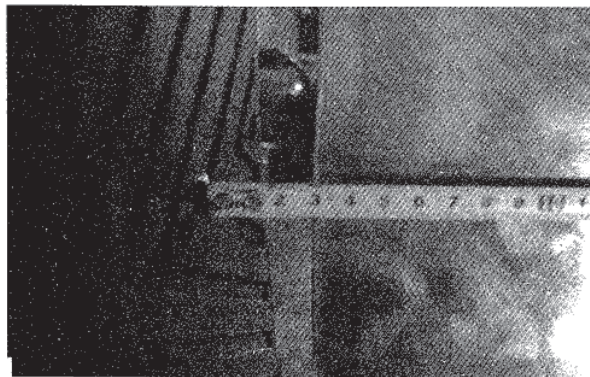

Fig 4-8
4.2.11The distance from the sharp of the bead breaker blade to the wheel support is 30~40mm (Fig4-8)。